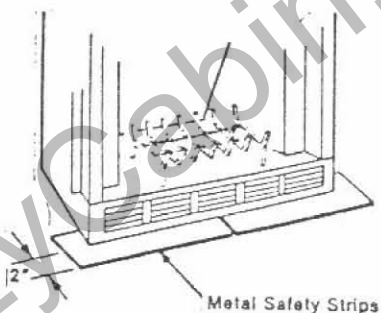

Figure 7
**Step 2:** Insert the metal hearth strips, packaged with your fireplace beneath the fireplace as illustrated (Figure 7).